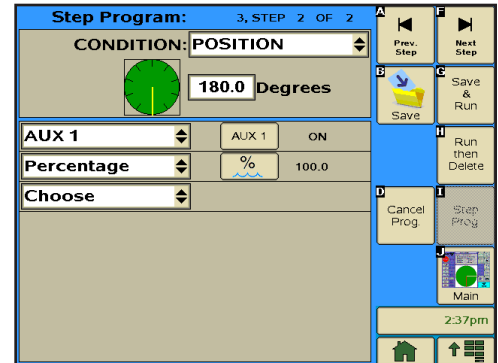

Figure 129-1
7. Program the position condition for this step. Refer to Figure 129-1.